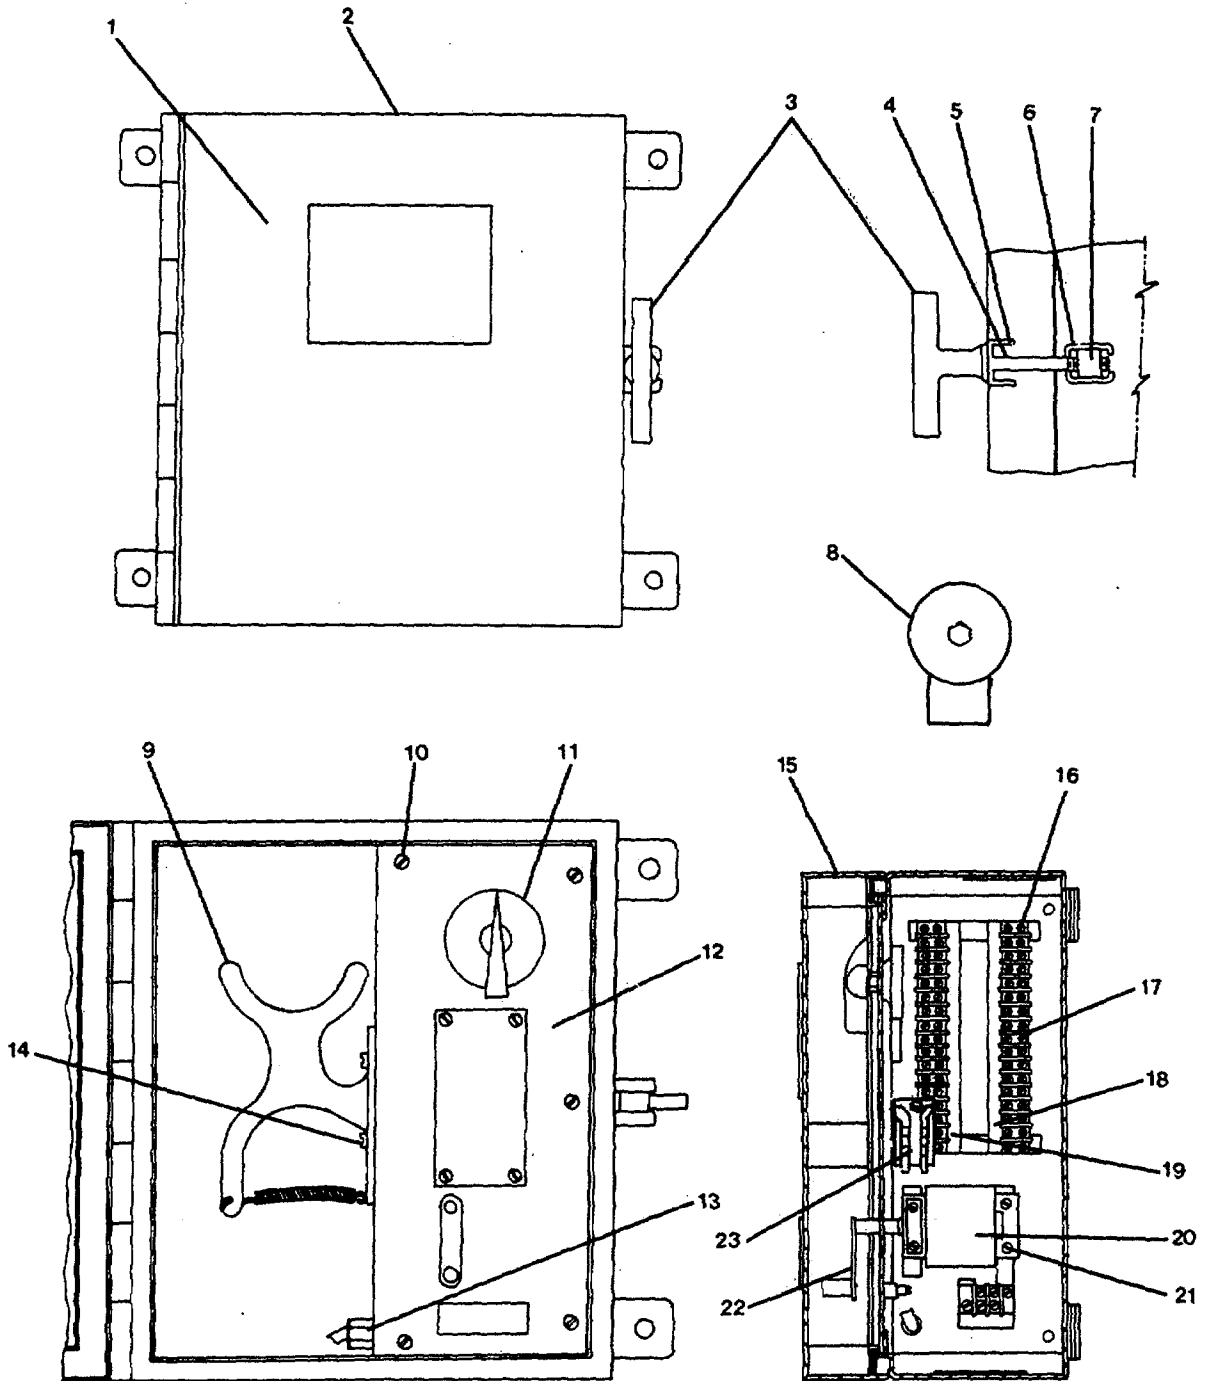

FIGURE 3-35. *Sound Powered Telephone MWT-R-19.*
- h. Install electromagnetic relay (25) and self-locking screw (14).
- i. Install hook switch (22).
- j. Install incandescent lamp (21), lens (20), and pilot light assembly (19). Remove tags and connect electrical leads.
- k. Install cotter pin (7), bracket spring (6), and handset bracket (5).
- l. Install drive screw (8).
- m. Install telephone selector switch (2). Remove tags and connect electrical leads.
- n. Install gasket (10) and access cover (3) into telephone housing (9).
- o. Install drive screw (1).
**3-38. Repair Sound Powered Telephone MWT-R-19. (Figure 3-35)**